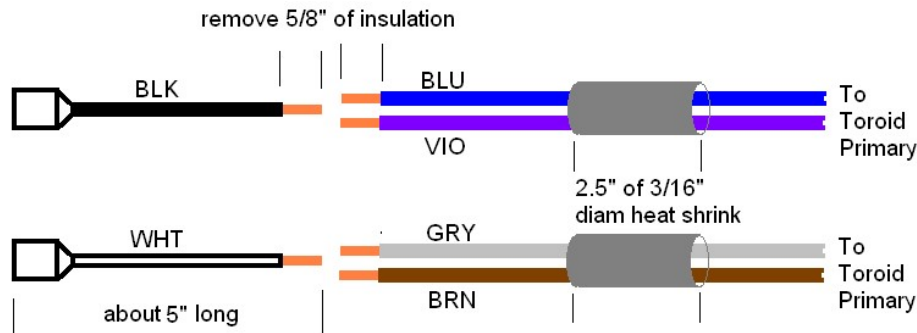

**Figure 35-I/O Connector wiring**
4. Insert the RCA jack and the *two insulating washers* and ground lug as show in Figure 35. The ground lug already has two black wires attached. Tighten the mounting nut. Note that there are shoulders on the insulating wire that keep the RCA connector's body from touching the chassis.
1. Slip the #10 lug from the left channel ground harness (black 18 AWG wire) over the black binding post stud. Position the lug as shown in Figure 35, then use a binding post nut (5/16" nut driver) from the soup bowl to hold the lug in place.
3. Slip the #10 lug from the white #18 AWG white wire that connects to the left amplifier module OUT terminal onto the RED speaker binding post stud. Position the lug as shown in Figure 35, then use a binding post (5/16" nut driver) nut from the soup bowl to hold the lug in place.
1. Slip the #10 lug from the right channel ground harness (black 18 AWG wire) over the black binding post stud. Position the lug as shown in Figure 35, then use a binding post nut (5/16" nut driver) from the soup bowl to hold the lug in place.
3. Slip the #10 lug from the white #18 AWG white wire that connects to the right amplifier module OUT terminal onto the RED speaker binding post stud. Position the lug as shown in Figure 35, then use a binding post (5/16" nut driver) nut from the soup bowl to hold the lug in place.